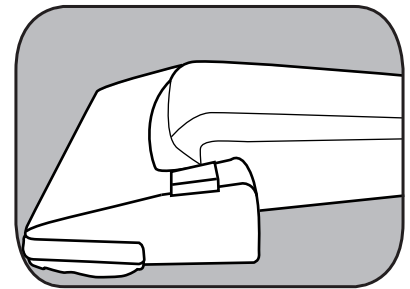

Fig. 4
4. Low position – for cleaning under furniture\* (Fig. 4).